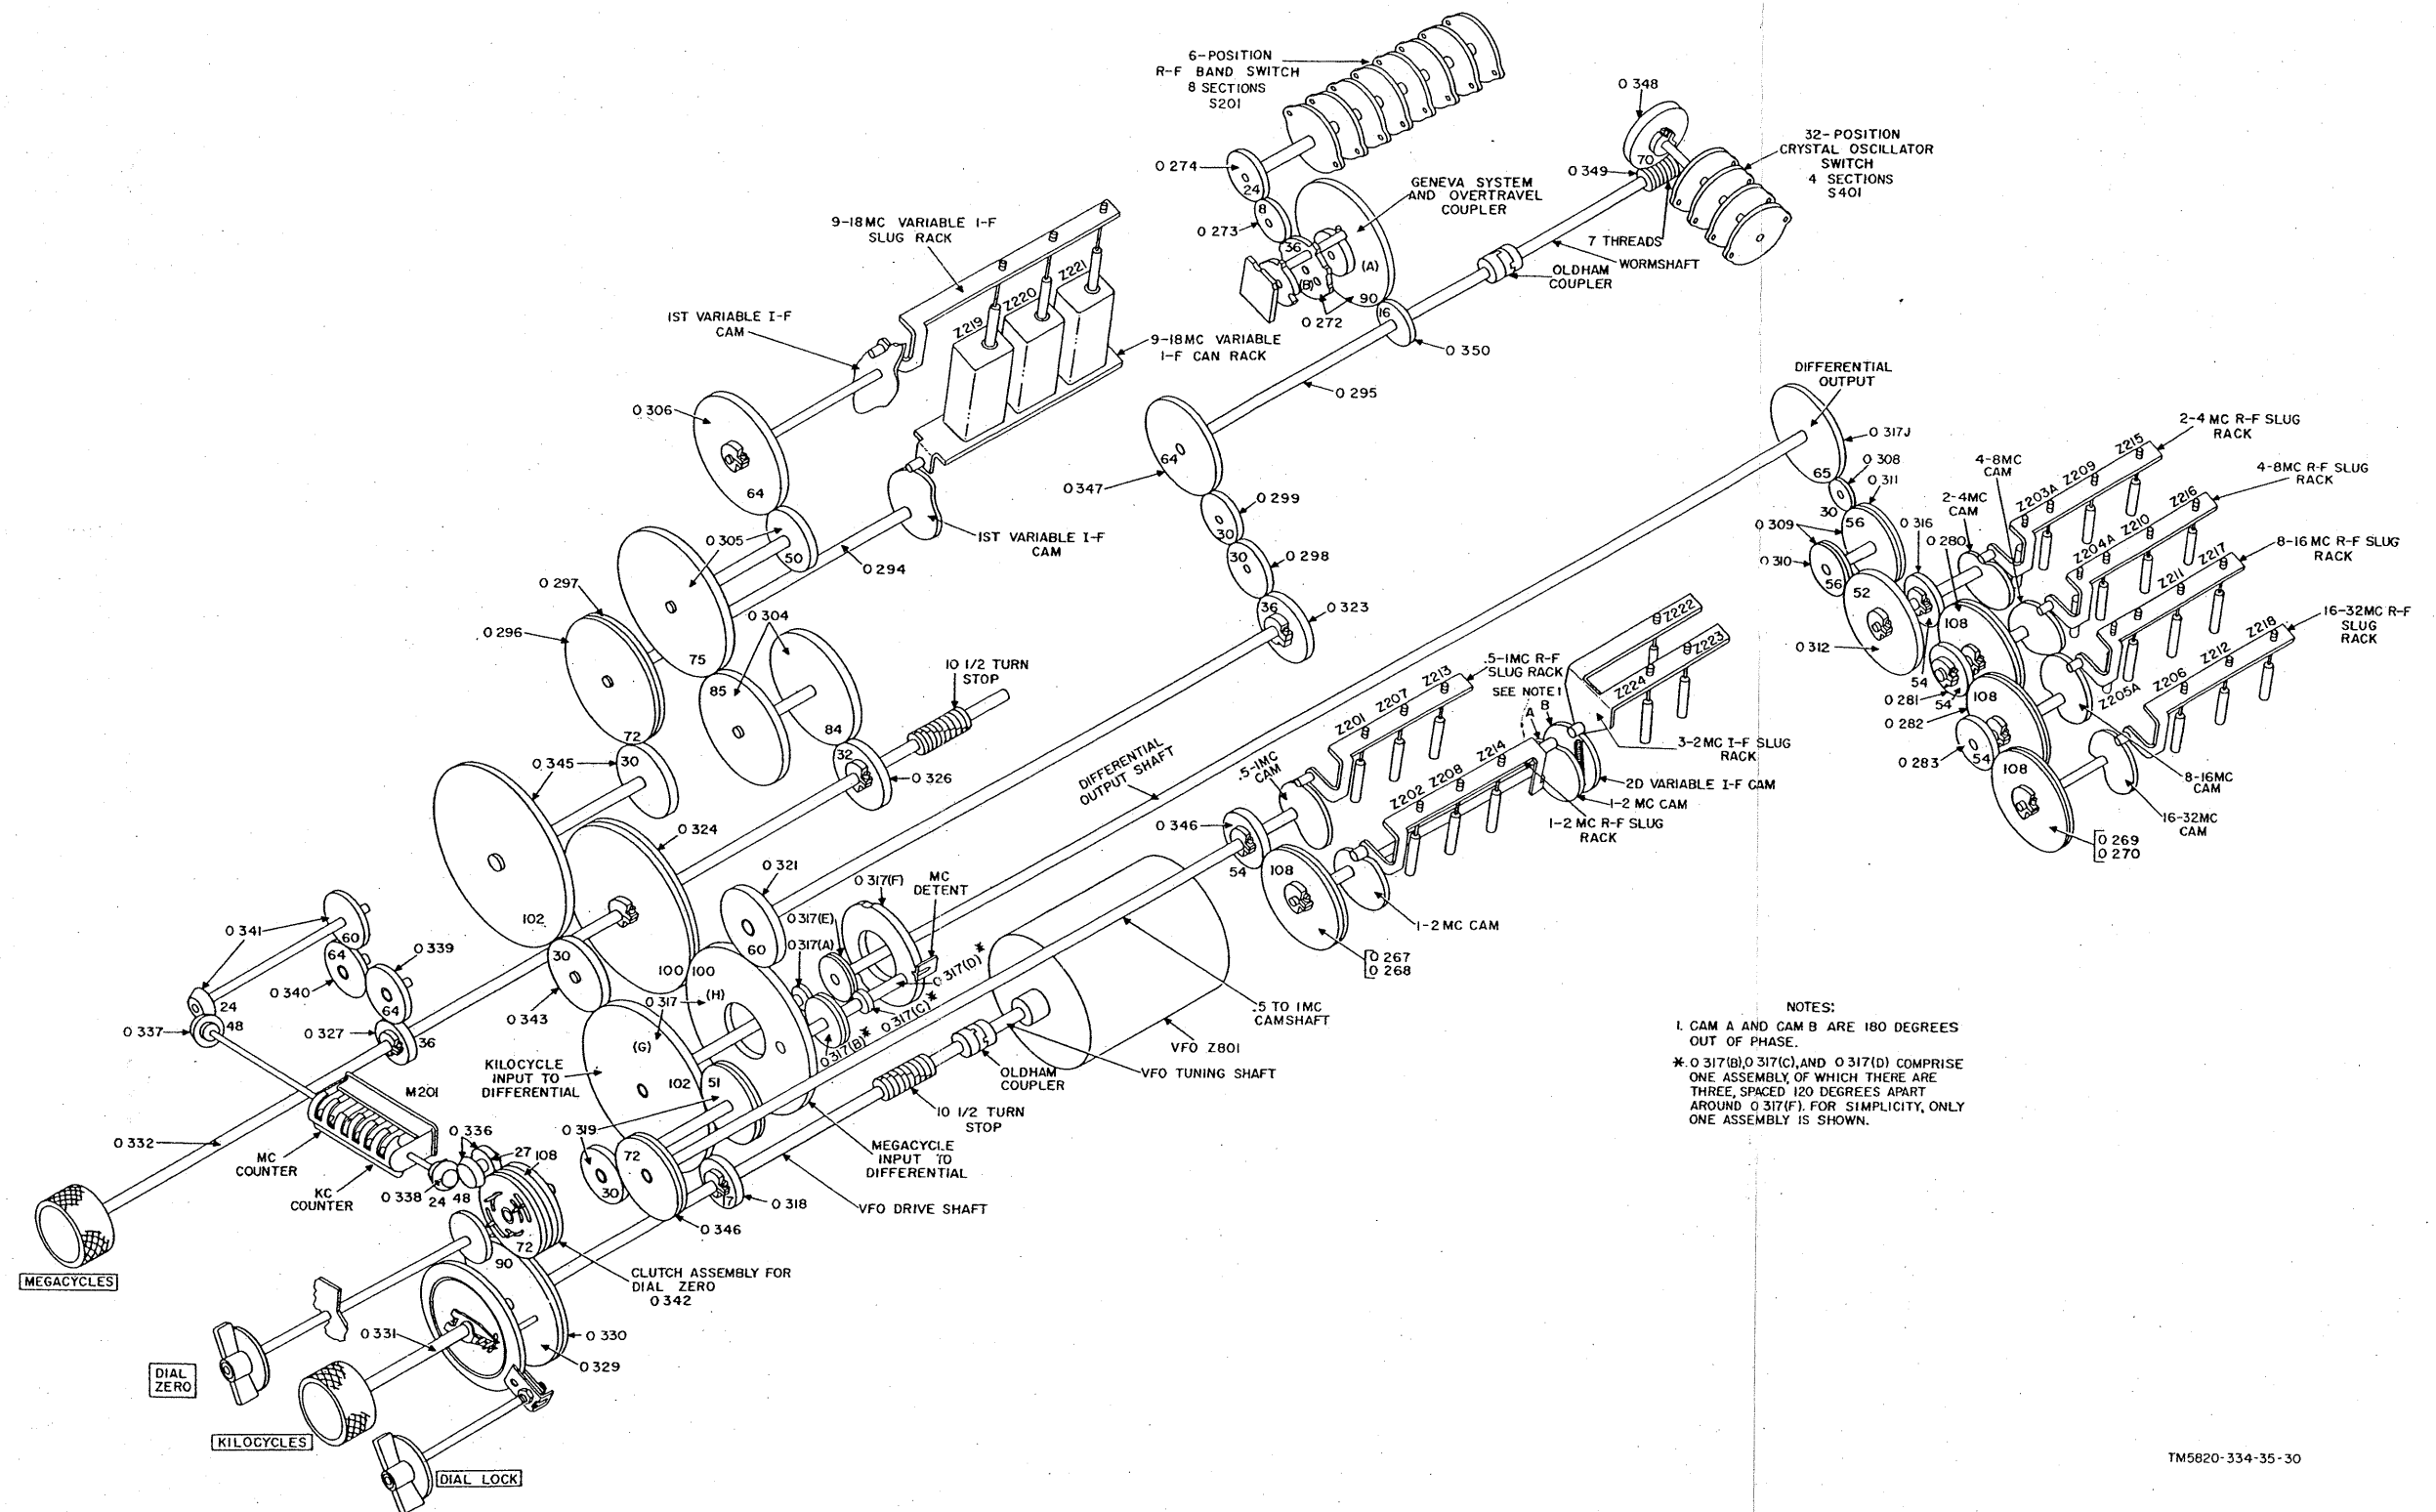

Figure 31. Tuning system, mechanical schematic.
39. Detailed Analysis of Tuning System (fig. 31)